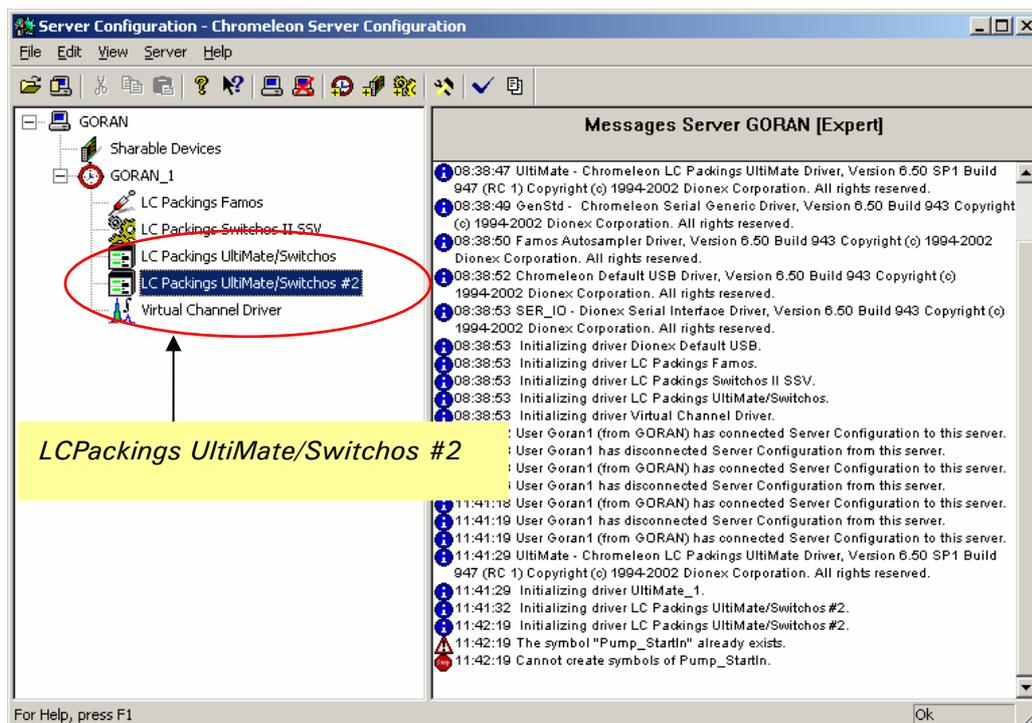

FIGURE B-10 Server configuration for UltiMate Dual Gradient
- f) Add a second 'LC Packings UltiMate/Switchos' device to the Timebase as shown in FIGURE B-10.